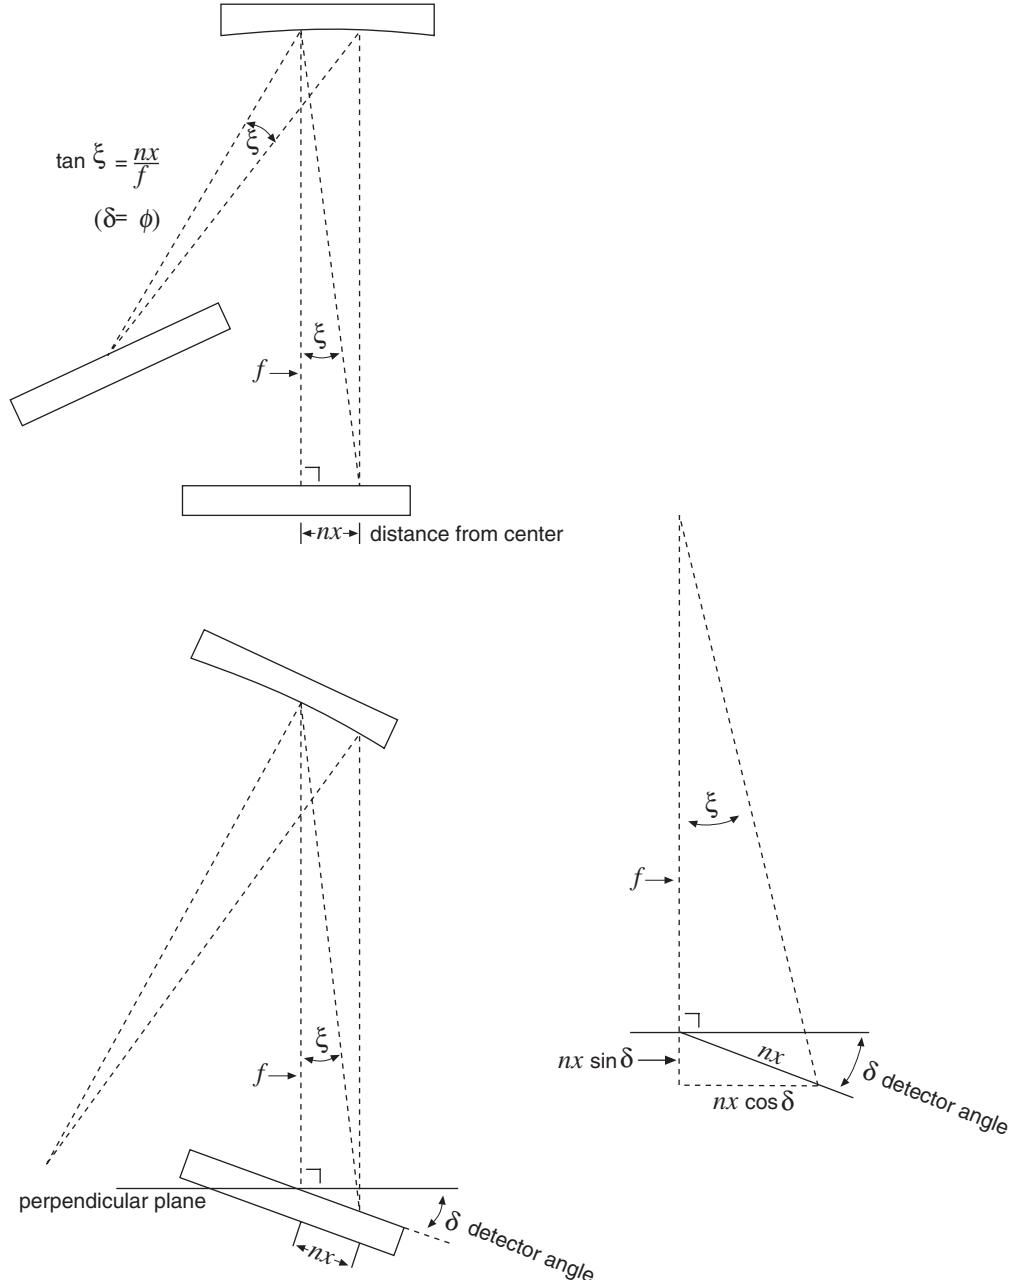

Figure 191. Relationship between ξ and the focal length, detector angle, and the distance of λ' from image plane
Note that the wavelength at the **center** of the exit plane does not depend on the focal length, f . However, the wavelength at points off center depends on both the focal length and the detector angle, δ (the angle of the image plane relative to the plane perpendicular to the spectrograph focal axis at the center of the image plane; see Figure 191). For some wavelength λ' relatively close to λ (at the same grating angle),
$$\tan \xi = (\mathbf{n}x \cos \delta) / (f + \mathbf{n}x \sin \delta), \text{ as shown in Figure 191.} \quad (4)$$